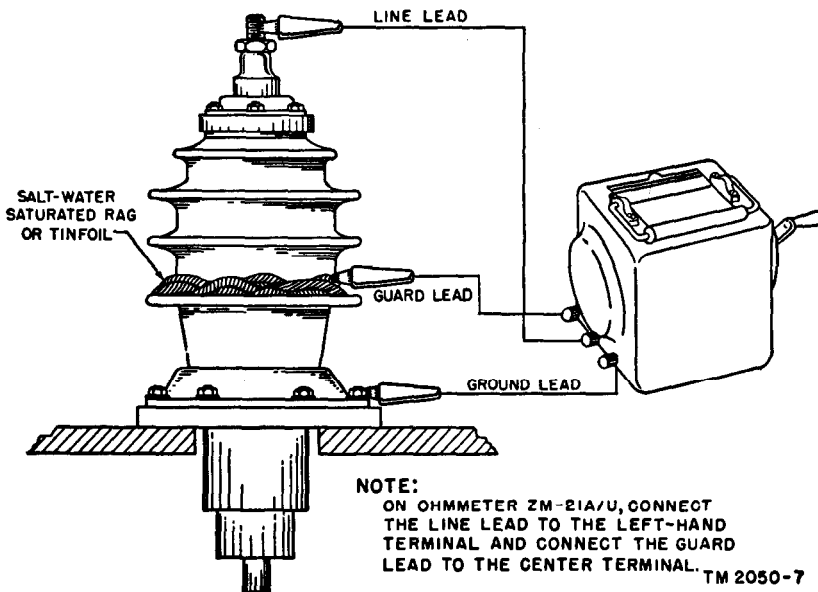

Figure 11. Connection for testing insulating bushings.
*a.* To obtain a true resistance value of the insulation under test, both the insulation and the measuring instrument must be protected against surface leakage to eliminate possible errors. Both Test Set I-48-B and Ohmmeter, ZM-21A/U have an internal protective or guard system for this purpose. The guard system is connected to the GUARD terminal so that protection against surface leakage can be extended to the insulation under test. For example, figure 11 shows a porcelain insulator bushing under test with the guard connection of the ohmmeter in use. Any leakage current between the base of the insulator and its terminal will be carried back to the test set through the GUARD terminal, and the internal guard circuit of the test set will prevent this leakage from entering the measuring circuit.
a. Connect a test lead from the GROUND terminal of the ohmmeter to the base of the bushing (fig. 11).